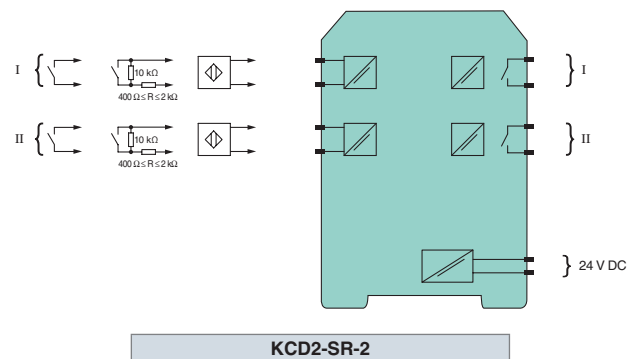

Figure 2
This signal conditioner is used in 2-channel applications. Figure 2 shows the block diagram with form A (NO) relay contacts.